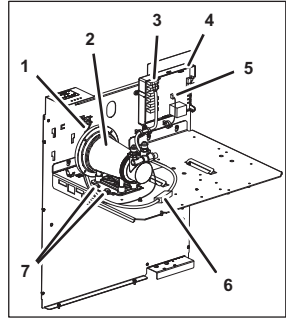

Figure 54
4. Disconnect either the plug (Figure 54/6) of the circulation pump (Figure 54/2) or disconnect the plug (Figure 54/3) of the circulation pump (Figure 54/2) on control system 1 (Figure 54/4).
5. Disconnect the plug (Figure 54/5) of the circulation pump (Figure 54/2) from control system 1 (Figure 54/4).
6. Disconnect the earth cable (Figure 54/1) from the circulation pump (Figure 54/2).
7. Remove the fastening bolts (Figure 54/7) from the circulation pump (Figure 54/2).
8. Lift the circulation pump (Figure 54/2) out of the unit.
9. Position the new circulation pump (Figure 54/2) within the unit.
10. Attach the circulation pump (Figure 54/2) using the fastening bolts (Figure 54/7).
11. Connect the earth cable (Figure 54/1) to the circulation pump (Figure 54/2).
12. Connect the plug (Figure 54/5) of the circulation pump (Figure 54/2) to control system 1 (Figure 54/4).
13. Connect either the plug (Figure 54/6) of the circulation pump (Figure 54/2) or connect the plug (Figure 54/3) of the circulation pump (Figure 54/2) to control system 1 (Figure 54/4).